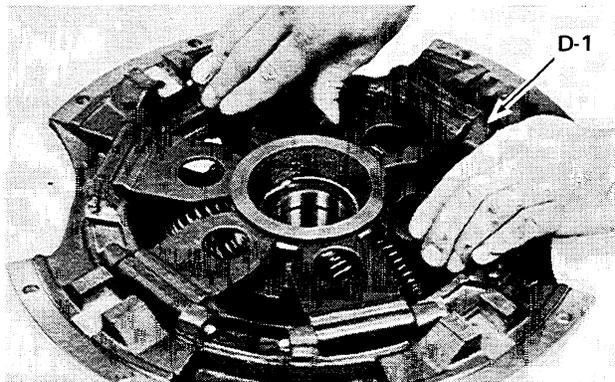

Figure 9:
7. Turn the adjusting ring (D-1) and lever assembly counter-clockwise until free of flywheel ring (C-1). Then lift and remove assembly (see Fig. 9).